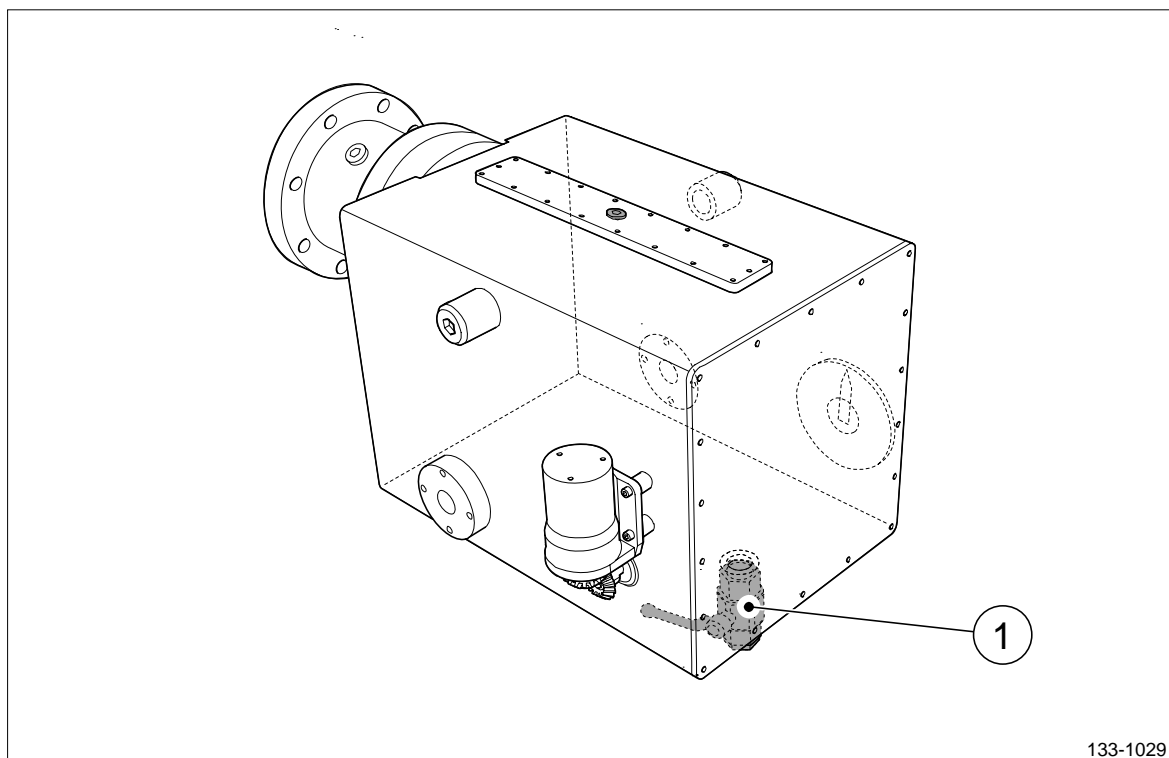

Figure 3 OD-box (FA)
3. Place a container under drain valve T on the OD-box (pos 1, figure 3).